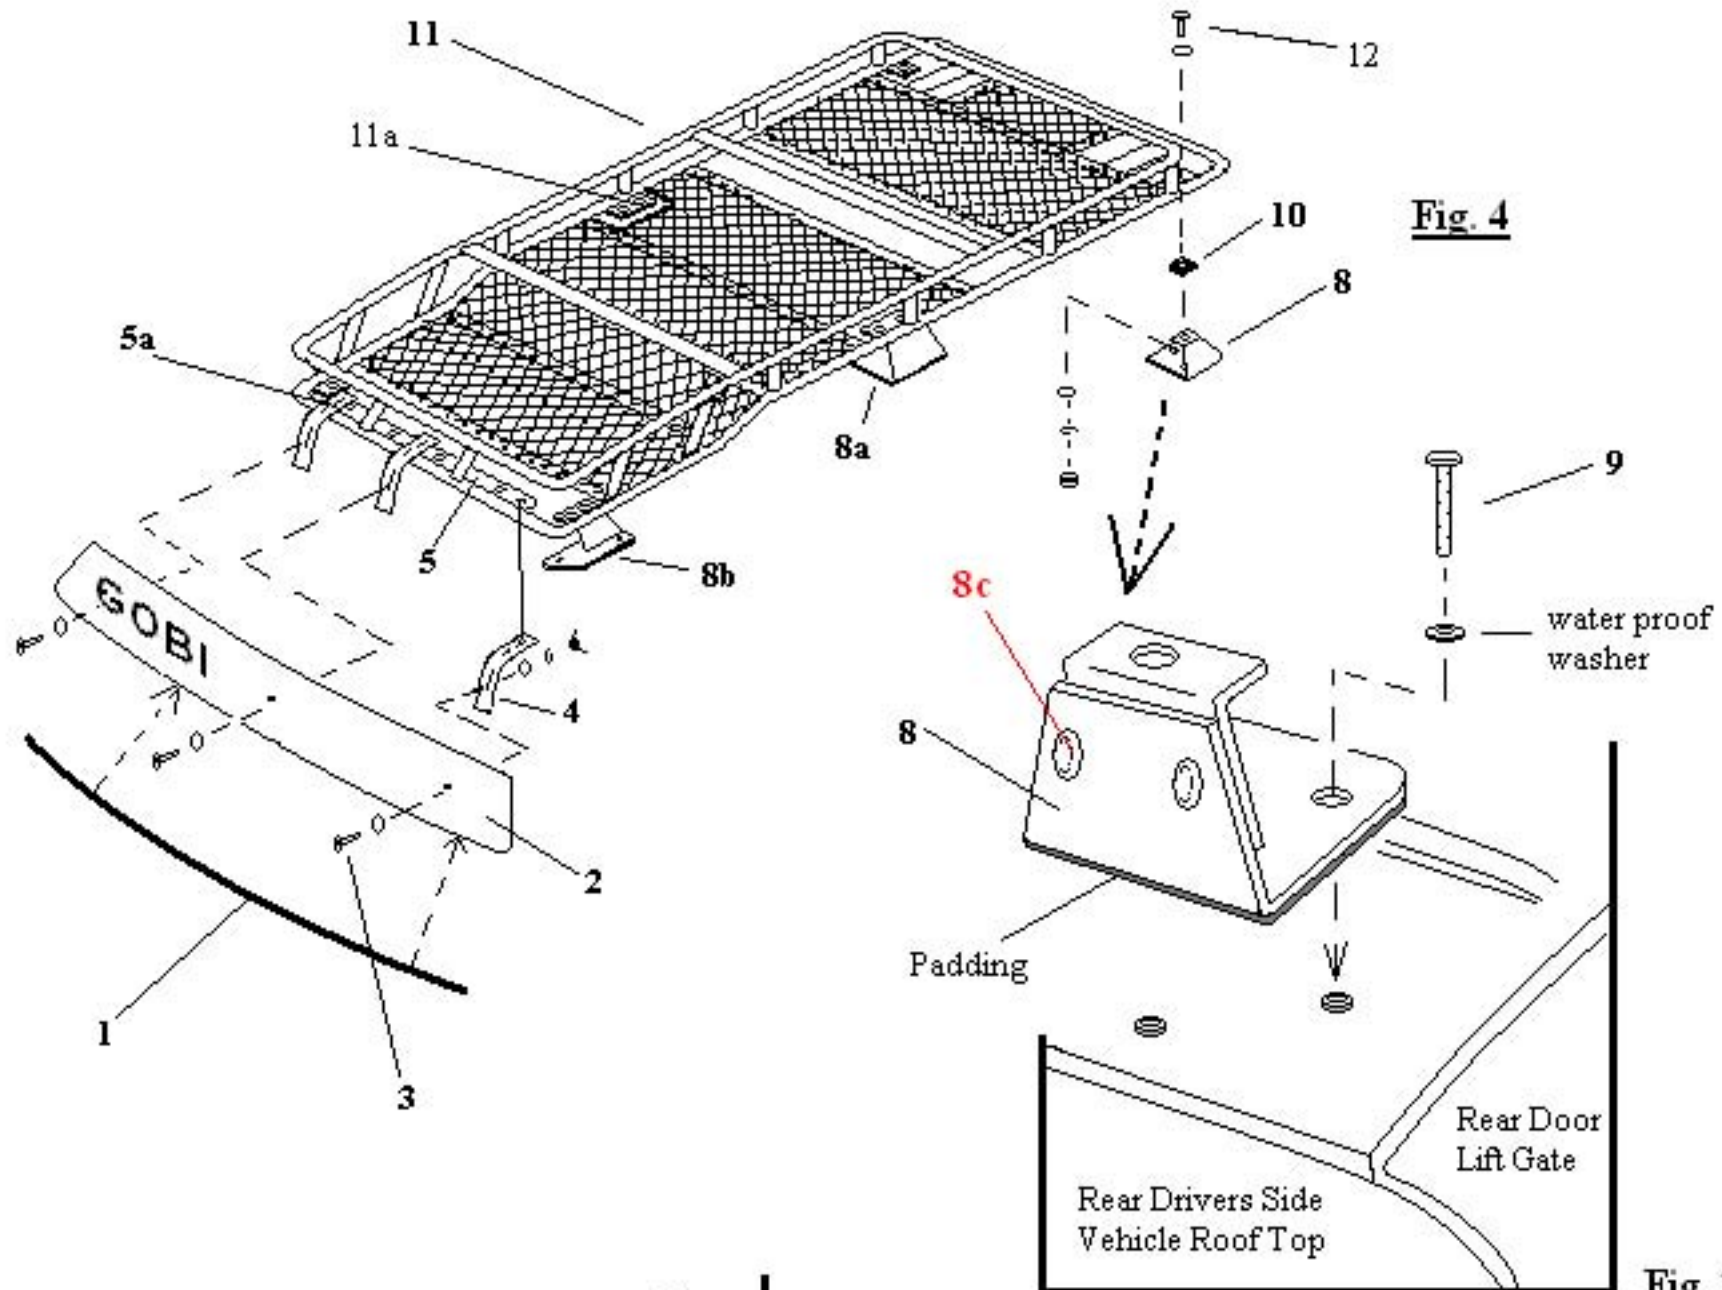
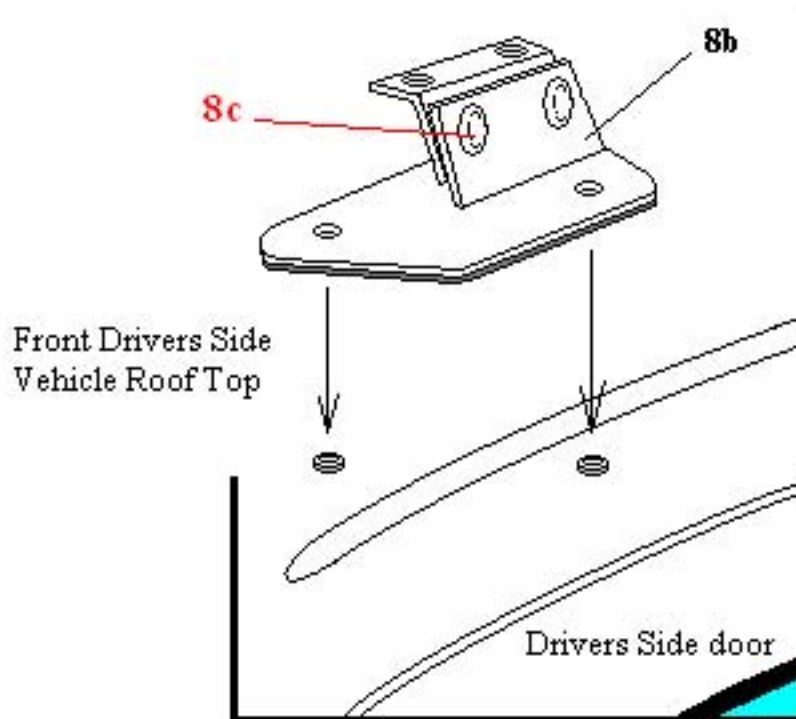

Fig. 3
Fig. 1
- 3- Refer to page 5 Fig. 4 and assemble together all roof rack mounting brackets 8, 8a and 8b a passenger and drivers side bracket of each. Begin by attaching bracket 8 "Rear Drivers Side" as shown in Fig. 3 page 5 lay the padded side of the mounting bracket on the vehicle roof top with mounting holes faced towards the vehicle center, then use the 6mm x 35mm screws and water proof washers (black rubber side down) located in **Plastic Bag #3** supplied with your kit and thread screws first through the mounting bracket then into the roof top threaded inserts. Do not fully tighten the screws at this time, leave screws loose enough for mounting bracket adjustment. Continue the same procedure to Fig. 2 and Fig. 1 page 5, then continue to the passenger side and complete the remaining 3 bracket attachments in the same manner.
- 4- After all mounting brackets have been installed loosen (but leave snug) bolts 8c of both the Front brackets 8b and Rear brackets 8 as shown on page 5 Fig. 1 and 3 to allow for height adjustment. Place roof rack #11 as shown in Fig. 5 page 6 onto all 6 mounting brackets 8, 8a and 8b. Place rubber pads #10 between all mounting brackets and the roof rack welded in Flanges 11a. Continue by installing the 3/8" x 1" bolts, washers and nuts supplied in your kit **Plastic Bag #4** through all welded in Flanges 11a and mounting brackets as shown in Fig. 4 page 5. Do not fully tighten at this time leave bolts loose enough for adjustment.
- 5- Align the Gobi roof rack with the vehicle then tighten all mounting brackets 8, 8a and 8b to the vehicle roof top using screws #9 as shown in Fig. 3 page 5, tighten firmly but do not over tighten. Continue by fully tightening the Gobi roof rack to all mounting brackets using bolts #12 as shown on page 5 Fig. 4.
- 6- Refer to page 5 Fig. 3 and Fig. 1 fully loosen all bolts 8c of both the Rear brackets 8 and Front brackets 8b, this will remove any tension which may be present between the Gobi roof rack and the vehicle roof top. After the tension has been removed retighten all 8c bolts on the rear brackets 8 and Front bracket 8b as shown on page 5 Fig. 3. All bolts on the entire Gobi roof rack should now be fully tightened.